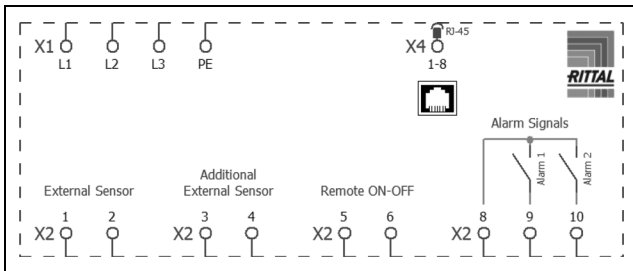

Fig. 29: Circuit diagram
- Remove the mains connector from the dispatch bag and connect to the mains as shown on the connection diagram (fig. 29).